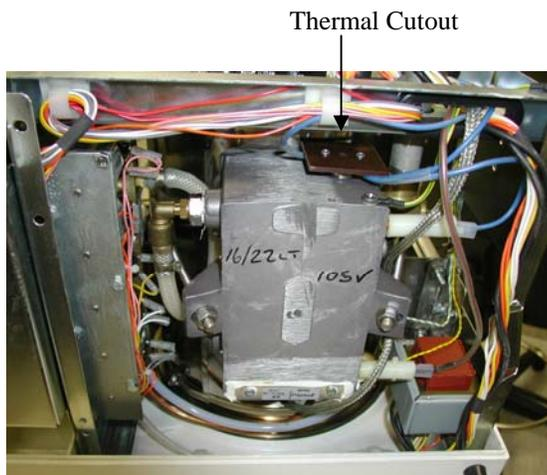

Figure 2
5. If no voltage is present, try resetting the thermal cutout on the back of the boiler (see figure 2).